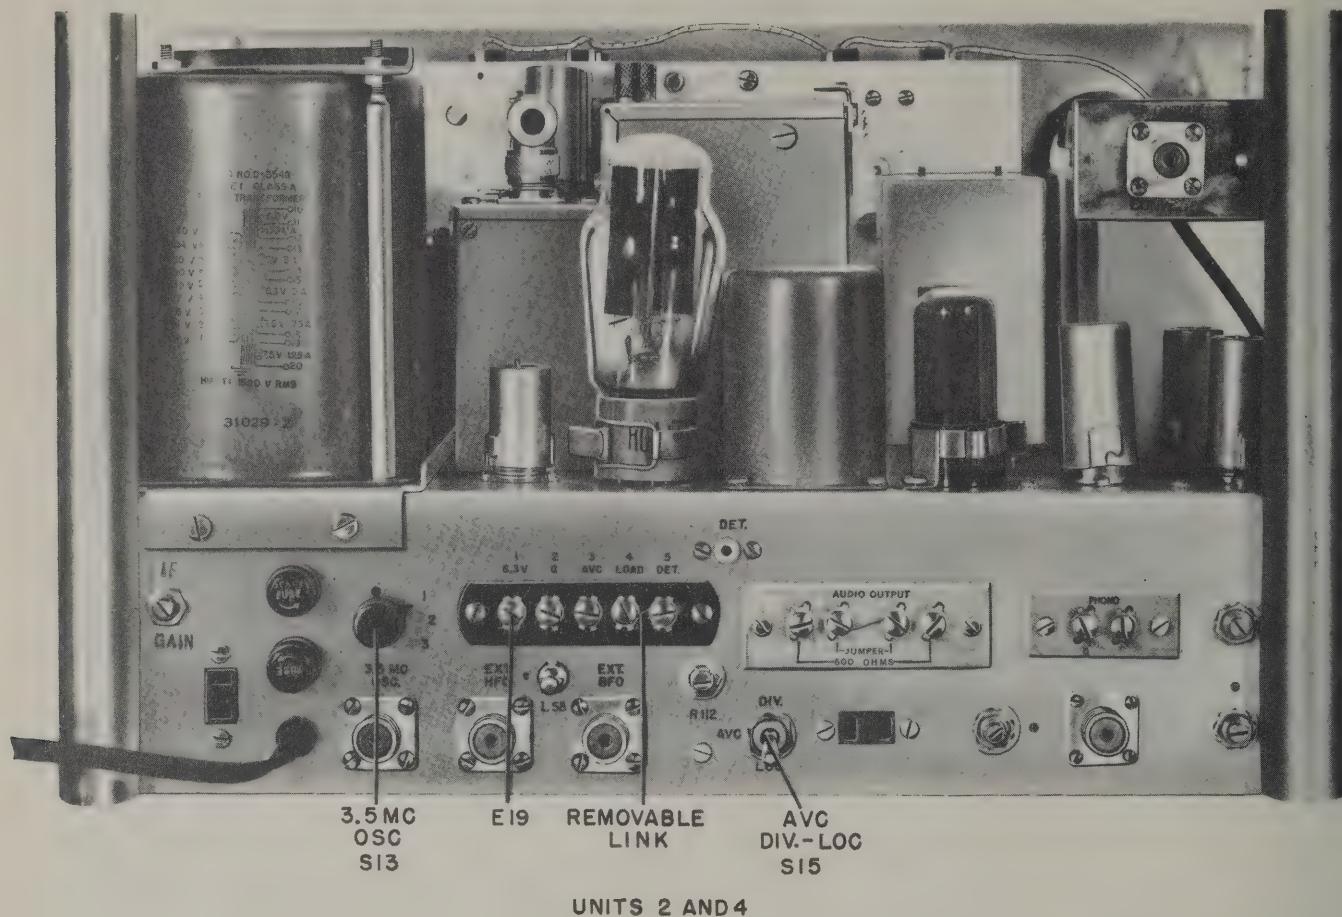

Figure 4-2. Radio Receiver R-450/FRR-28, Rear View, Operating Controls and Adjustments
(16) Link terminals 4 and 5 on terminal board E19 on receiver rear panel. See figure 4-2.
(17) Set AVC DIV-LOC switch on receiver rear panel to LOC.
(18) Set "3.5 MC OSC" on receiver rear panel to position "3".
(19) Slightly readjust TUNING control on receiver front panel for maximum meter deflection.
(20) Readjust RF GAIN for a reading at approximately the center of the meter, and set AUDIO GAIN for desired speaker output level.
(21) If noise is excessive, turn LIMITER switch to ON.
(22) If interference between the two receivers is
(15) Patch the speaker to the receiver audio output at the patching panel and set speaker level to maximum.
(16) Link terminals 4 and 5 on terminal board E19 on rear of receiver. (See figure 4-2.)
(17) Set AVC DIV-LOC switch on rear of receiver to LOC position.
(18) Set 3.5 MC OSC on rear of receiver to position "3".
(1) Disconnect terminals 4 and 5 on terminal board E19 on rear of receiver. See figure 4-2.
(2) Connect plug P9 to DET jack on receiver rear panel.
(3) On the patching panel, connect the following:
(c) If Keyer KY-79/UR is used, remove links from terminals 4 and 5 on terminal boards E19 of both receivers. If Keyer KY-79/UR is not used, connect terminals 4 and 5 on terminal board E19 for one receiver only. These terminals are not connected on the other receiver. (See figure 4-2.)